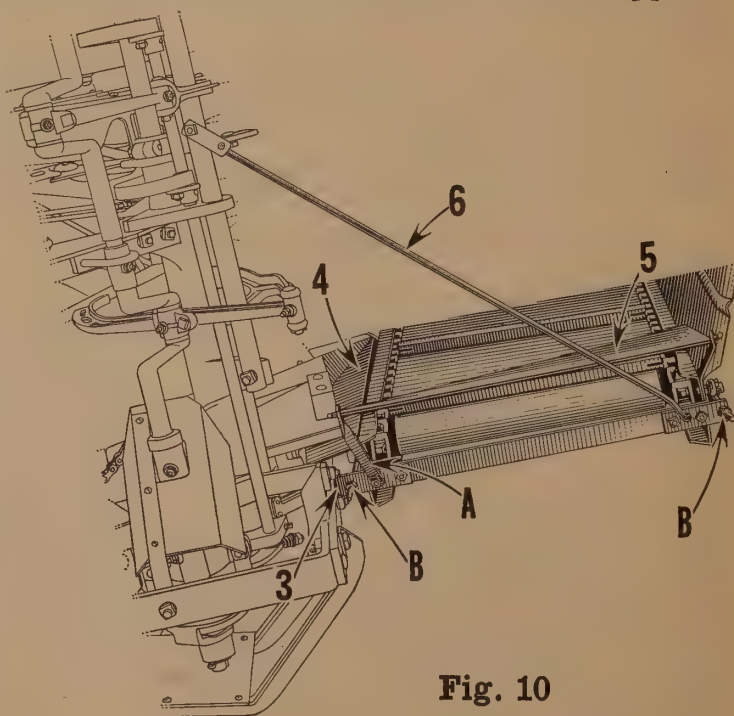

Fig. 10
Slip support beam through slotted bracket on Main Frame and Carrier Drive Shaft into drive sleeve, then bolt support at L. H. end of Carrier to Main Frame—See Fig. 10. Shield on Carrier front side goes to R. H. side of rear throat side on Binder. Hook support beam hook **under** Main Frame Sill and bolt hook to support beam. Two holes are provided in support beam to **level** carrier. Rebolt bracket to support beam at front of slotted bracket on Main Frame.
4. (Fig. 10.) Bolt Shield to Front Sill of Carrier. Shield goes to **rear** of Butt Pan and **over** Main Frame.
5. (Fig. 10.) Hook Idler Shaft shield rod into bracket on rear side—then slip bracket "**A**" (twisted end up) over front end of shield rod and bolt bracket to Carrier Support.
7. Adjust tension of conveyor chain at "**B**", Fig. 10. Both sides. See pages 41 and 42.